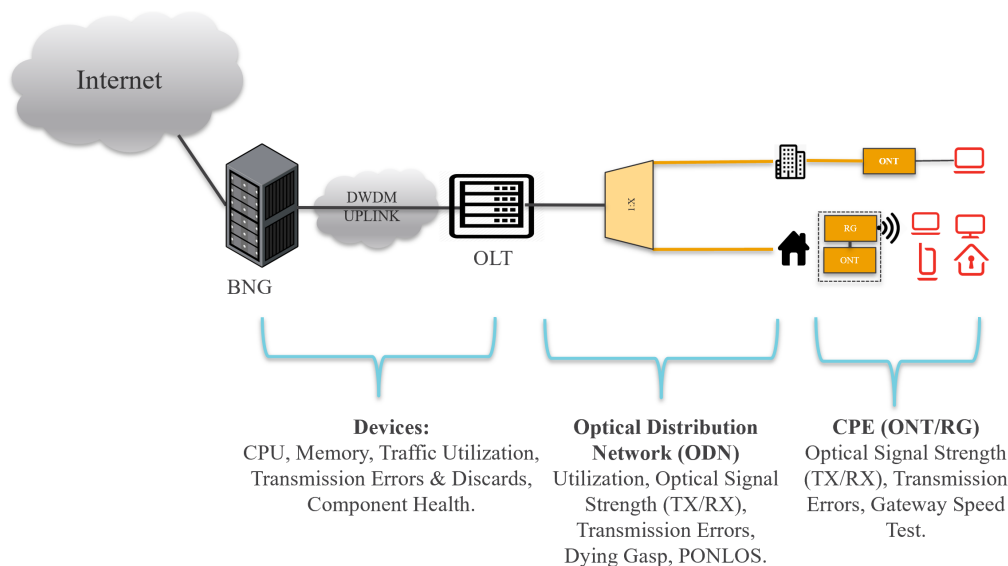
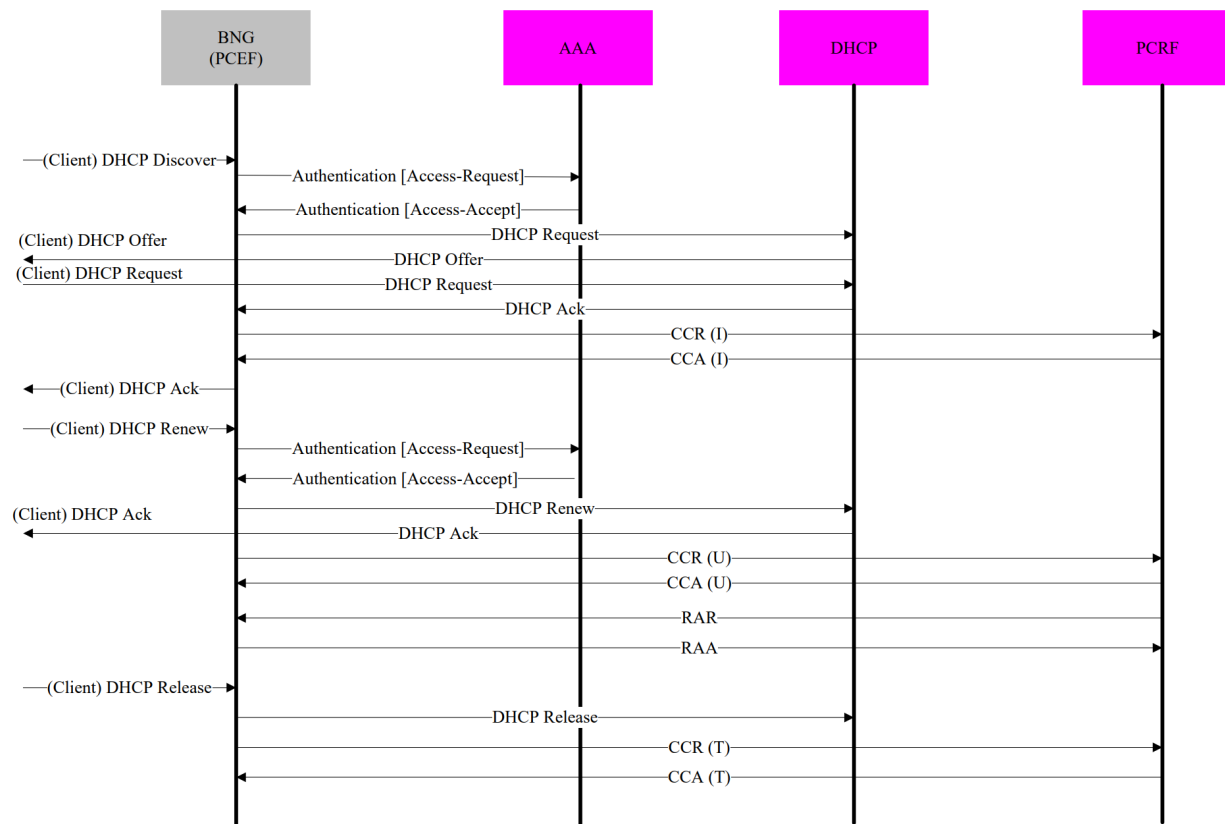

Figure 6: Network Platform KPI (High-Level)
Figure 7: Service Flow Diagram: RG Obtains IP from DHCP Server
- Document your network service flows and performance KPIs. You must establish a deep understanding of your network (protocols, flows, functions). Likewise, you need to understand the telemetry and key measurements and capabilities from each platform. Figure 6 and Figure 7 show the use of documenting these to better understanding how to extract the right datasets from your equipment to guide and make data-driven decisions. In equal light it's fundamental to understand the correlations and relationship between your data so that you can extract valuable information.